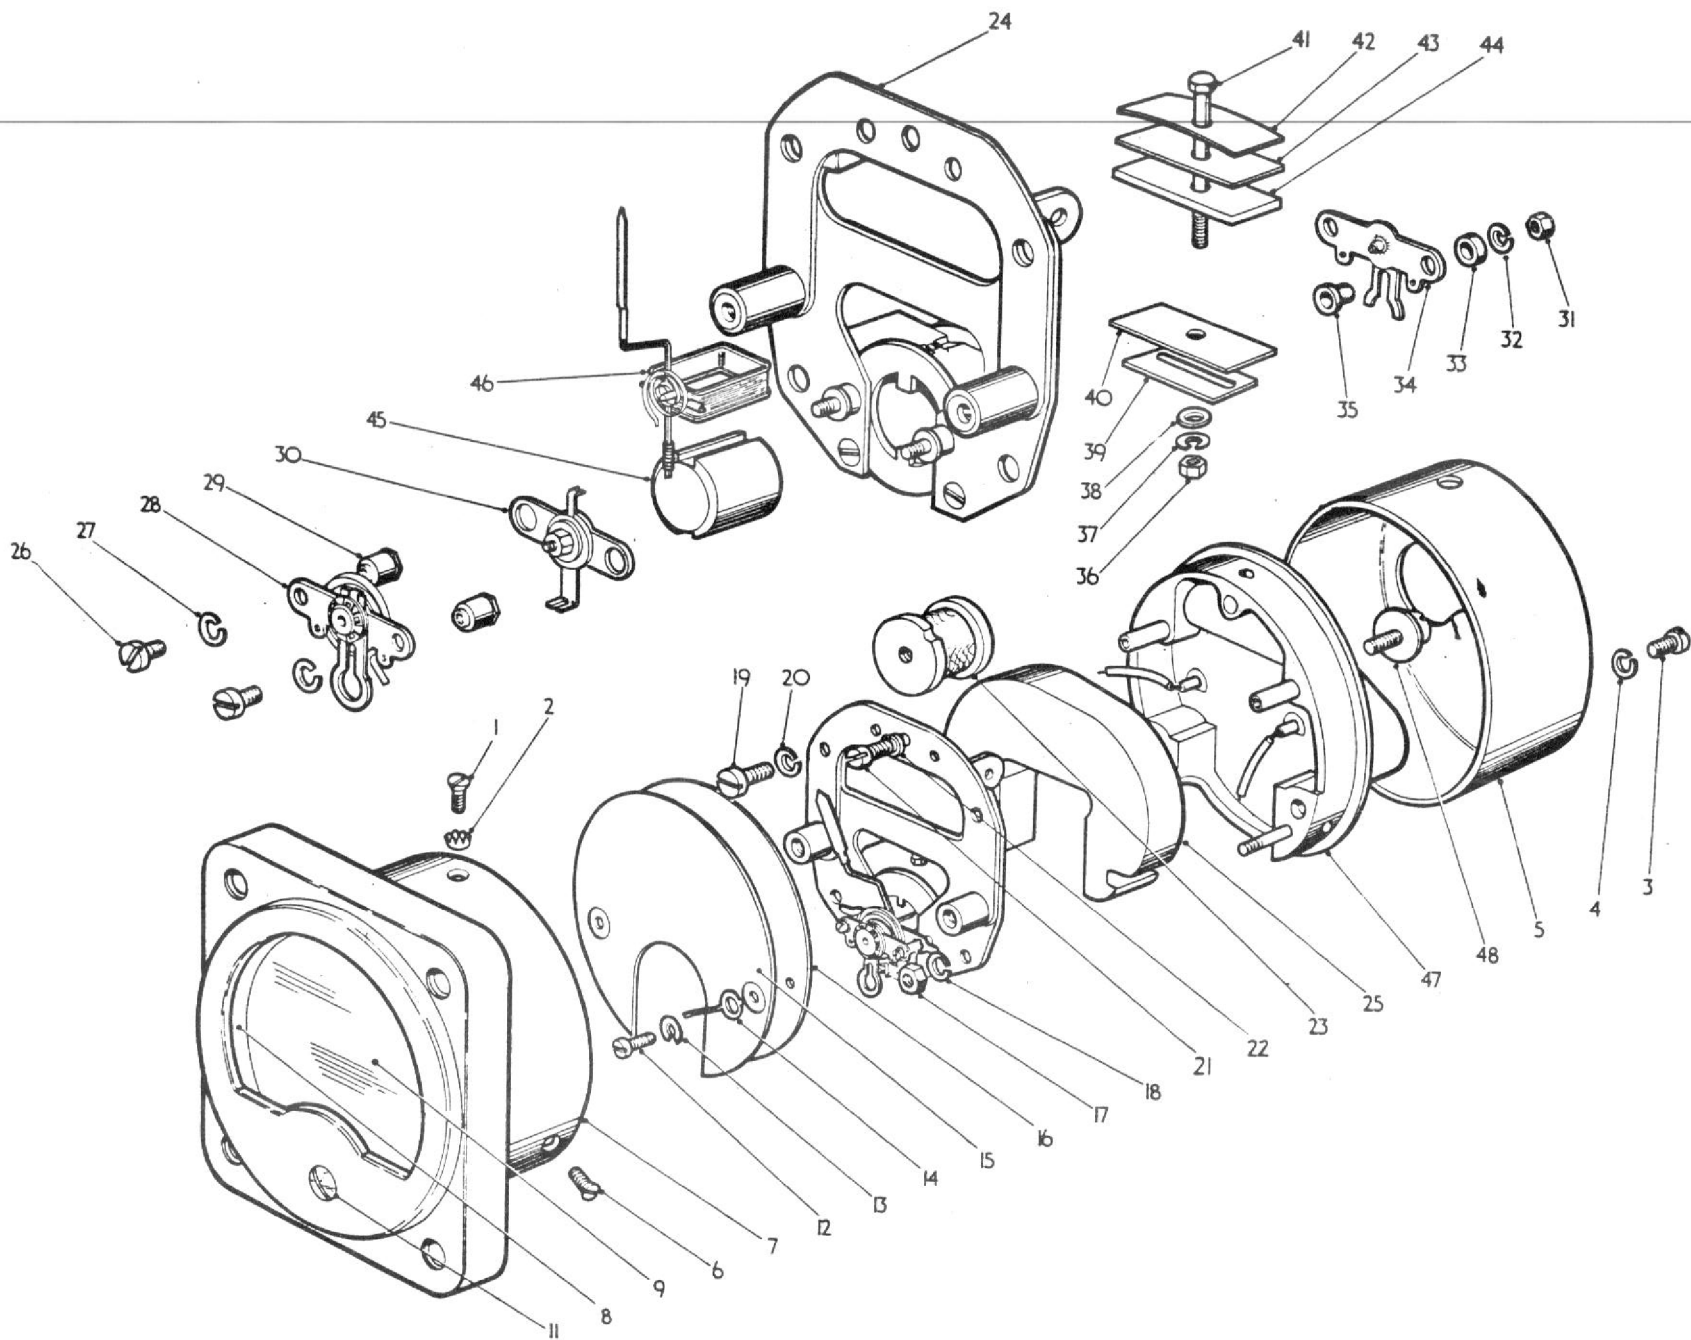

Fig. 101 Exploded view of indicator - Model S.64 Form 3
C. Procedure (Refer to Fig. 101)
KEY TO FIG. 101
B. Broken glass (Refer to Fig.101).
- (1) Prise out the bezel ring (8) and glass (9) from cover (7).
NOTE: It is important to maintain the relative positions of the temperature compensators as shown in the exploded view Fig 101. The adjoining surfaces of the temperature compensators must be in good contact with each other.